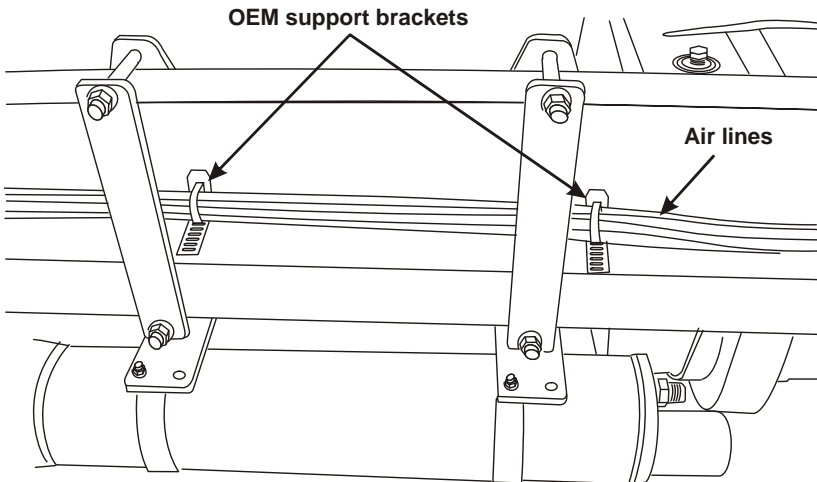

Figure 2.3
- Route all the hoses together along the frame rail to the front of the vehicle. Fasten them together with nylon ties and secure them to the OEM support brackets that are located at regular intervals along the frame (Figure 2.3).